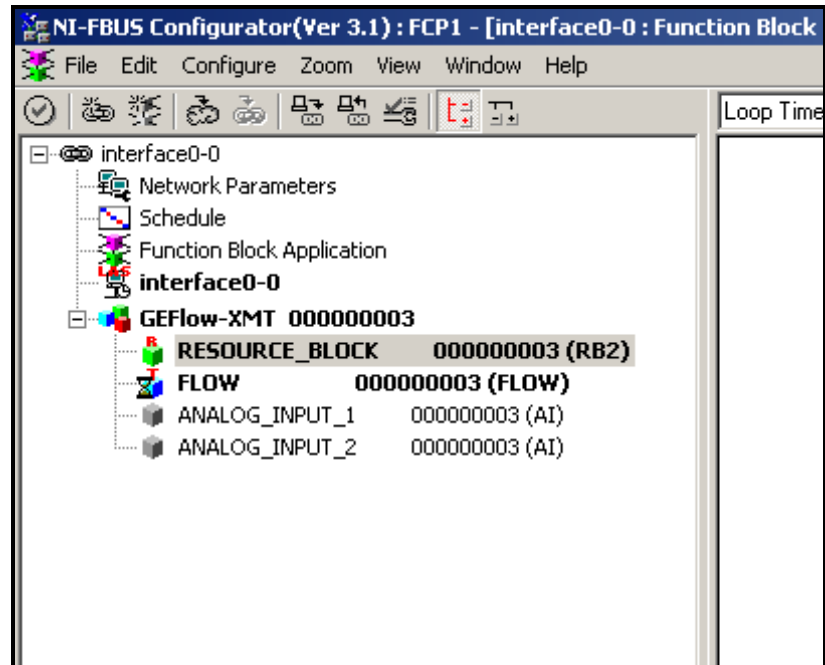

Figure D-1: Configuration Utility Setup Example
Figure D-1 below shows the Configuration Utility with a flowmeter on the network (GE Flow-XMT).
1. Double click on the AI block for which you wish to set the units (ANALOG\_INPUT\_1 or ANALOG\_INPUT\_2 in the tree under GEFlow-XMT; see Figure D-1 on page D-2).
1. Double click on the FLOW transducer block (in the tree under GEFlow-XMT; see Figure D-1 on page D-2).